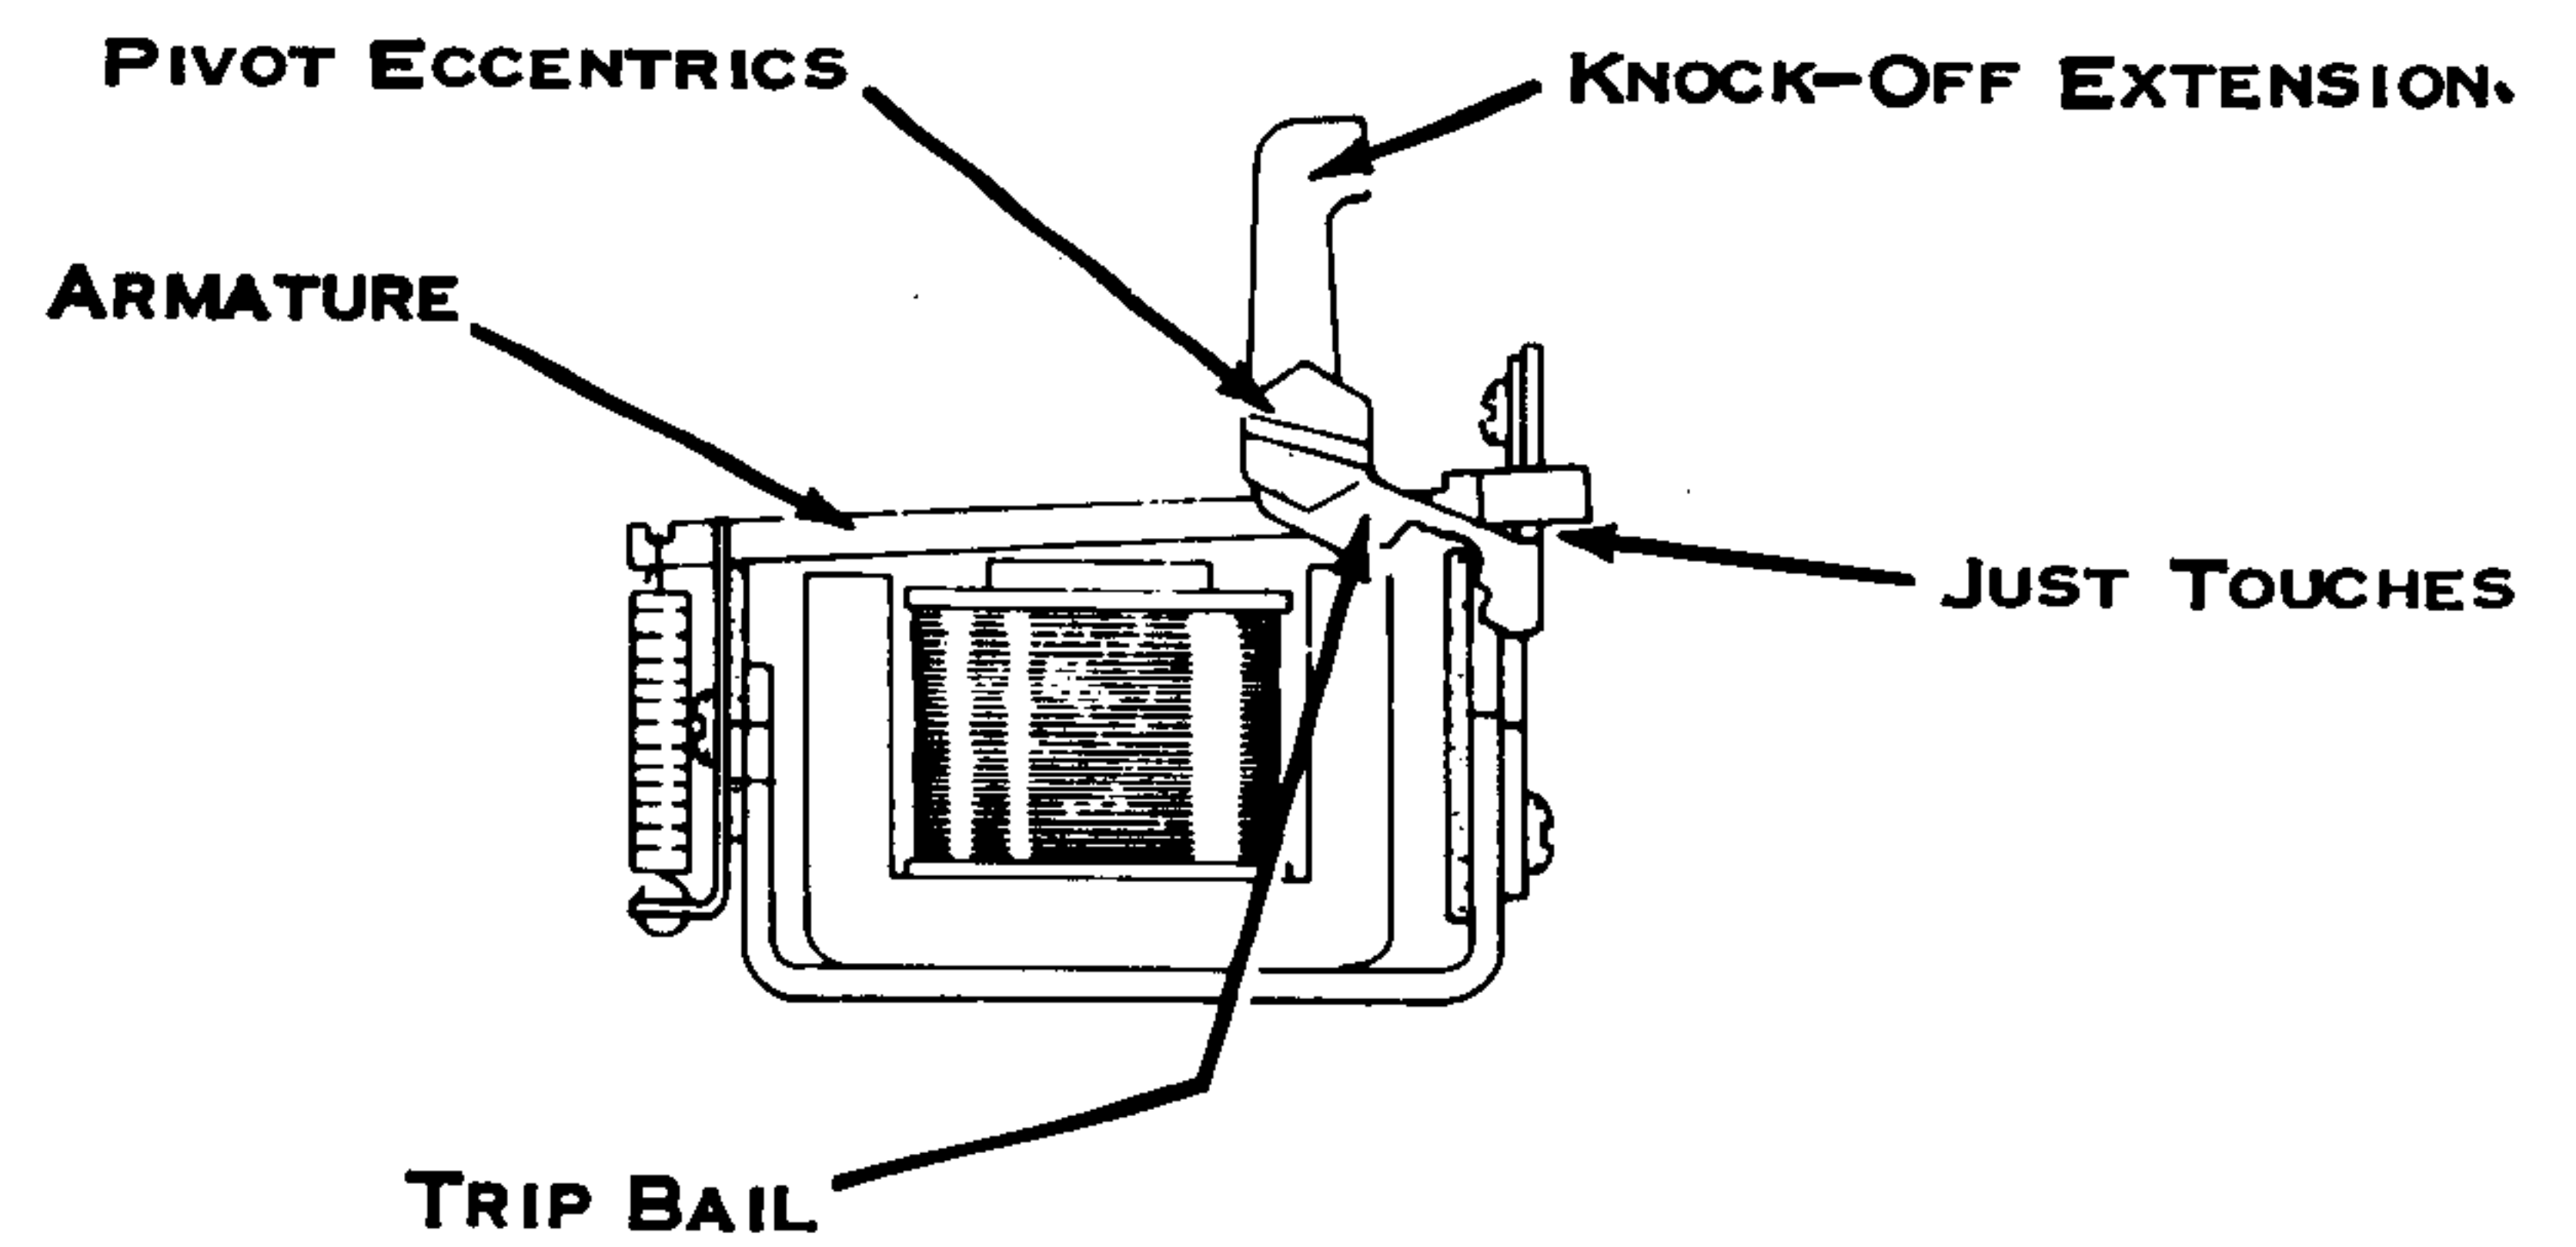

Figure 24. Pivot Eccentrics
6. Pivot Eccentrics (Fig. 24) - Adjust so that the cycle clutch trip bail just touches the armatures (at rest). Apply slight pressure to the knock off extension to hold the bail in contact with the armatures. The adjustment must be obtained with the high point of the eccentric toward the top of the machine. Both eccentrics must be adjusted to insure contacting all armatures evenly.
If necessary, refine the pivot eccentric adjustment to obtain equal latch lever overthrow from the T2 and R5 armatures (Ref. Fig. 24).